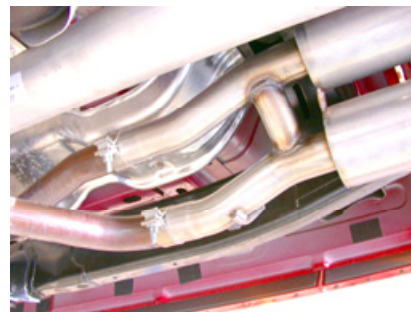

Figure 4
1. Place a clamp over the expanded ends of the muffler assembly and set it into position as shown in figure 4 making sure to install the hangers into the rubber isolators. Do Not tighten the clamps.